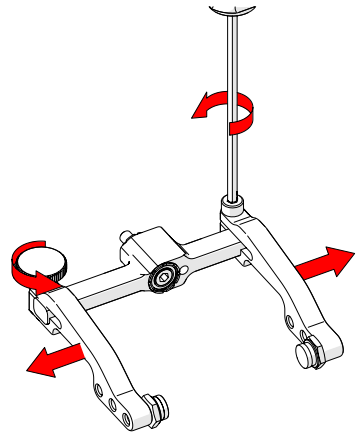

Fig. 94 - Remove probe holder arms
3. Loosen the probe holder arm adjustment knob and the arm clamp screw. Slide the probe holder arms off the yoke (Fig. 94).